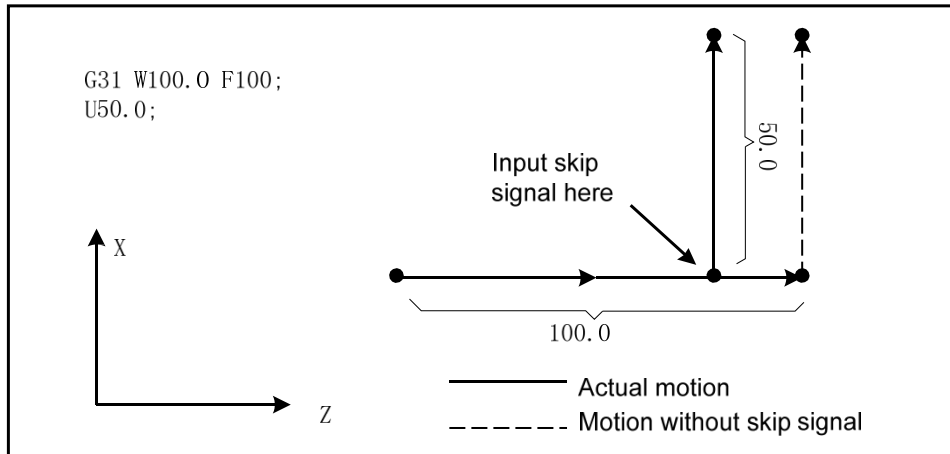

Fig. 3-13
1. The next block of G31 is the incremental coordinate programming shown in Fig. 3-13: